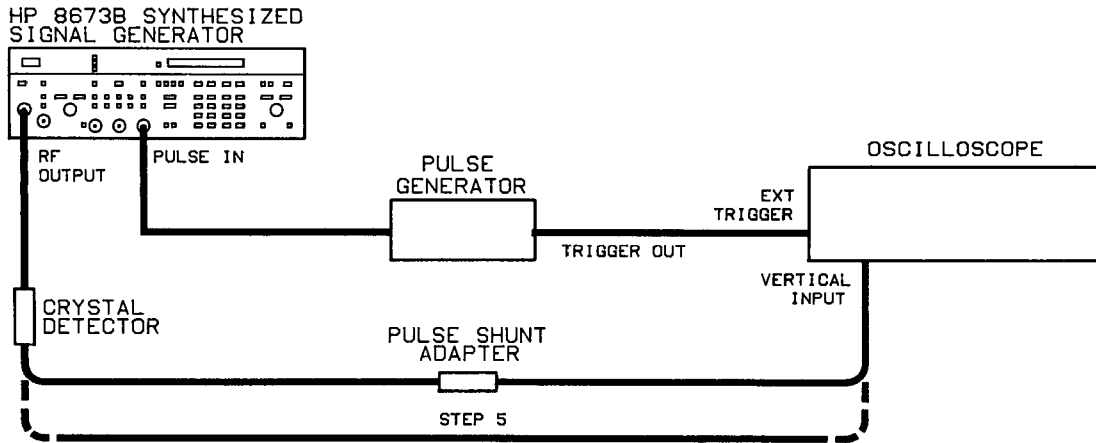
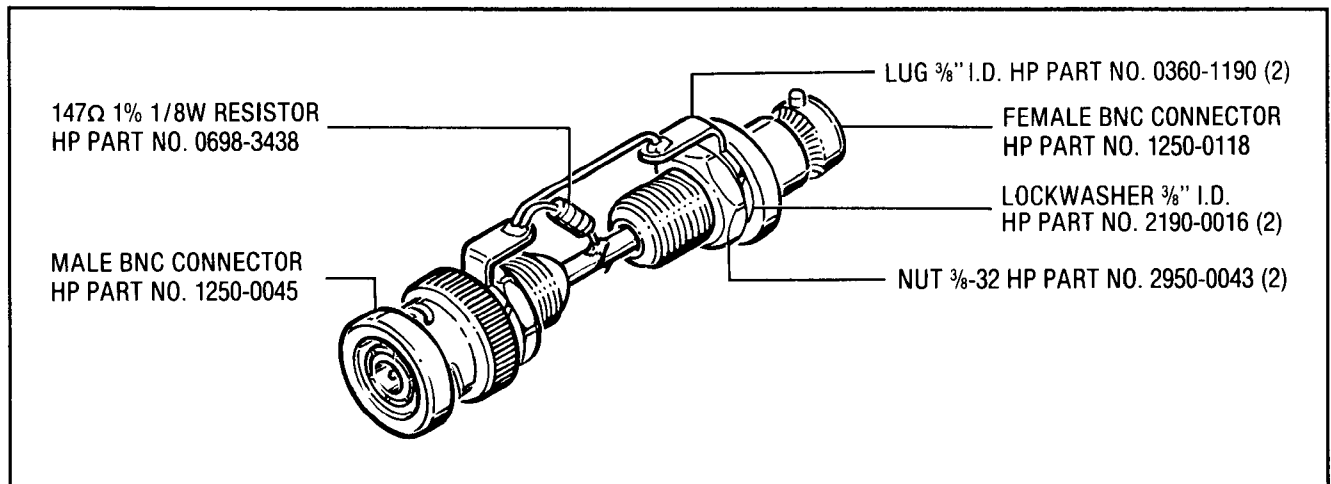

Figure 8-42. Pulse Modulation Initial Check Test Setup
Figure 8-43. Pulse Shunt Adapter
1. Connect the equipment as shown in figure 8-42. The shunt adapter can easily be fabricated using 2 BNC connectors and a 147 ohm resistor as shown in figure 8-43.
5. Bypass the Pulse Shunt Adapter as shown in figure 8-42. Adjust the oscilloscope vertical position and sensitivity controls so that the pulse base line is one division from the bottom graticule line and approximately 5 divisions high in peak amplitude. (The Signal Generator output level may have to be increased to +8 dBm.)